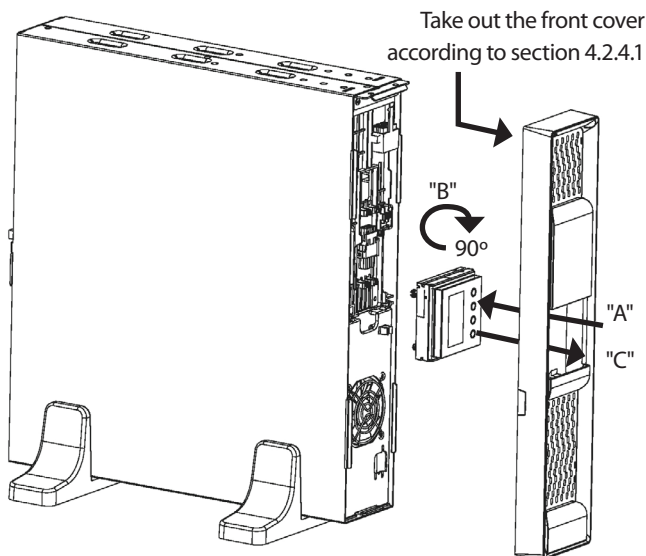

Fig. 5. Rotation of the control panel with LCD over the front cover.
- To make easier the message reading when the equipment is vertically installed, it is advisable to rotate 90° clockwise the control panel with LCD (see figure 5).